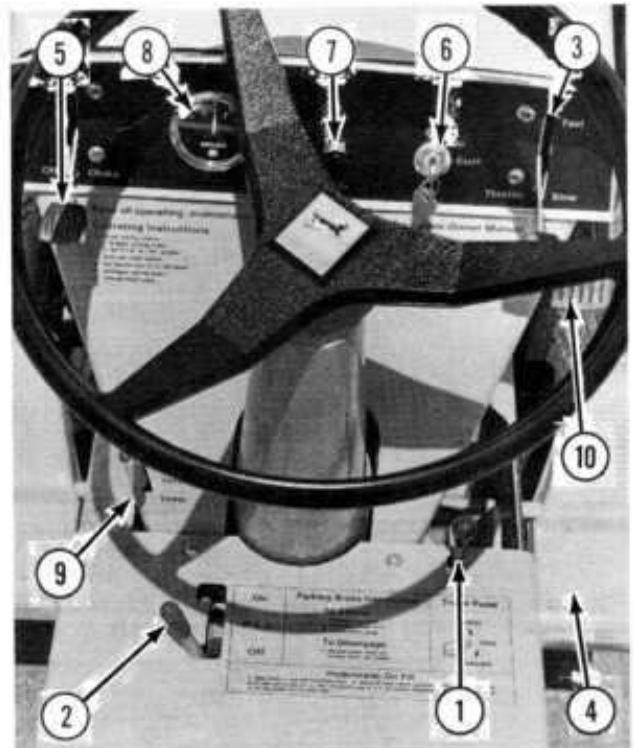

Figure 4
For efficient operation of the tractor, study the accompanying illustration (see Figure 4), together with the brief descriptions given here, until you are thoroughly familiar with the location and function of each control.
10. **FOOT BRAKE** — When foot is removed from travel pedal, use foot brake to stop. When engaging parking brake (1), Figure 4, or when disengaging parking brake, depress foot brake.